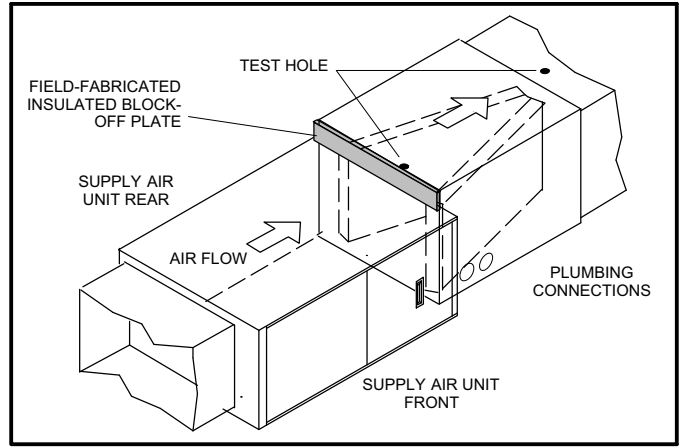

Figure 2. D-Width Coil with C-Width Furnace
5. **Applications using CH35-60 D-width unit with C-width furnace** — Figure 2 shows an application that includes a D-width coil and a C-width furnace. This application requires construction of an insulated, field-supplied block-off plate to cover the open space on the coil housing.